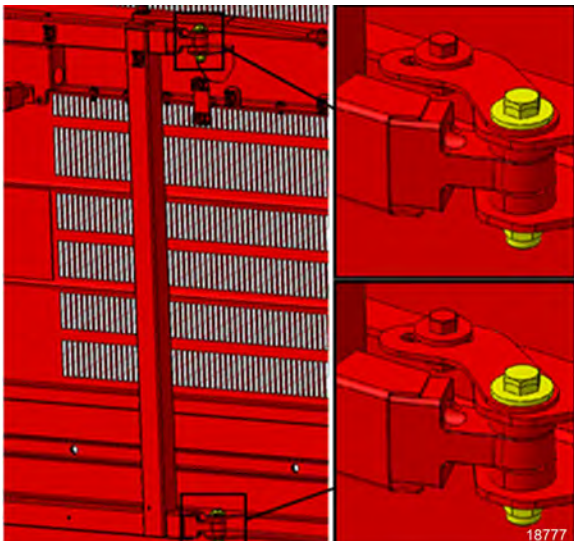
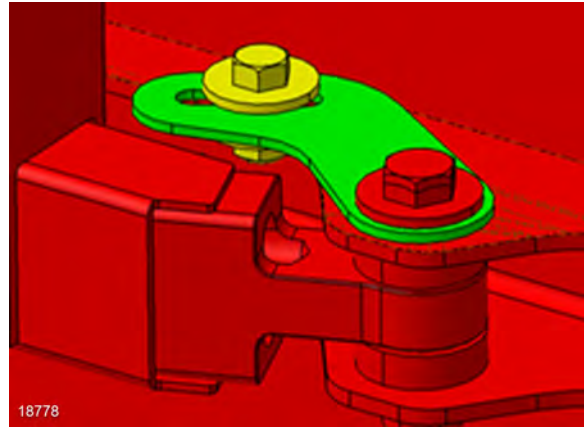

FIGURE 55
FIGURE 56: LOCKING PLATE
- If the vertical position is out of tolerance, release the locking plate (Figure 56) and rotate the door using the adjustment provided on the inner side of the door, at the attachment points between the arm and the door (FIGURE 55). Tighten the locking plate nut to 14 lb-ft (19 Nm) to preserve adjustment.